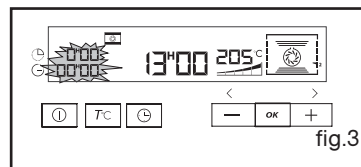

fig.3
However, you can still adjust the temperature by pressing the $T^{\circ}C$ touch control under the display (fig.3).
- the cooking time indicator and 0:00 both start to flash (fig.3),
- the cooking time indicator and 0:00 both start to flash (fig.3).